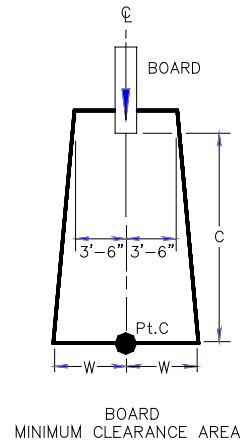

FIG. 4
- B. The minimum clearance area in front of a properly installed diving board on an inground swimming pool is a minimum distance of three feet six inches (3'-6") on either side of the board's centerline as shown in **FIG. 4.** Pt. C extends a minimum distance of "C" from the tip end of the board as shown in **FIG. 4.** The width distance "W" on either side of Pt. C is given in **CHART 1** and shown in **FIG. 4.**